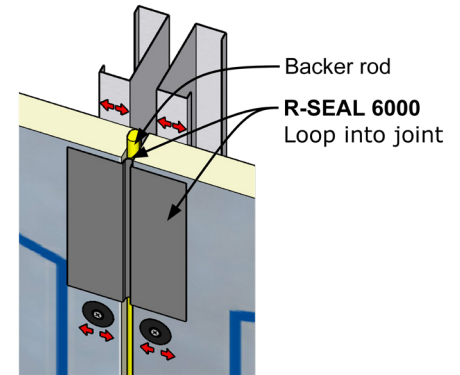

Figure 16
- D. For dynamic joints up to 3/4", R-SEAL 6000 flashing may be used to seal the insulation boards. Install a backer rod and/or bond breaker as required and loop flashing inside the joint to allow for movement. **Reference Figure 16.** The R-SEAL 6000 must extend a minimum of 3" onto each surface. Loop dimensions will vary based on joint performance requirements.